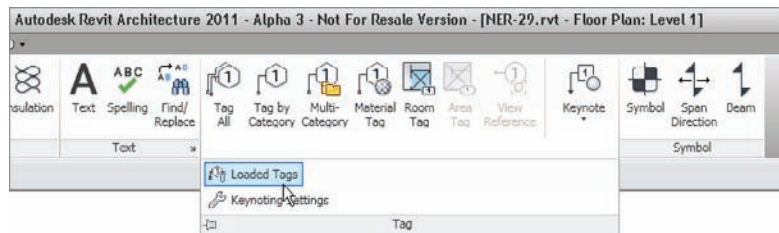

FIGURE 11.65 Click Loaded Tags.
9. On the Home tab, in the title bar of the Tag panel, you'll see a pull-down arrow. Click the Loaded Tags button (see Figure 11.65).